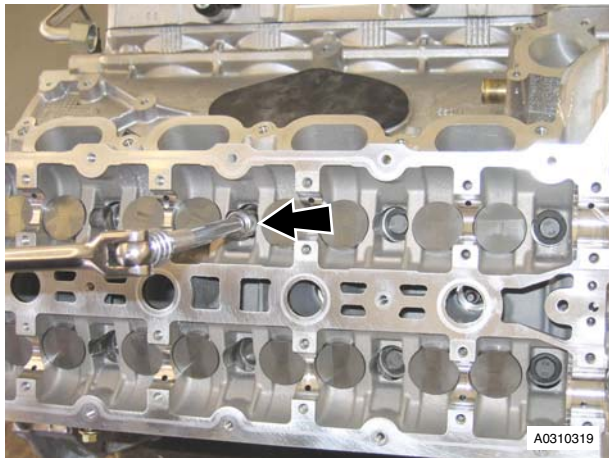

Figure 3
- Remove bolts (x10), evenly and in stages securing RH cylinder head to cylinder block (see Figure 3).